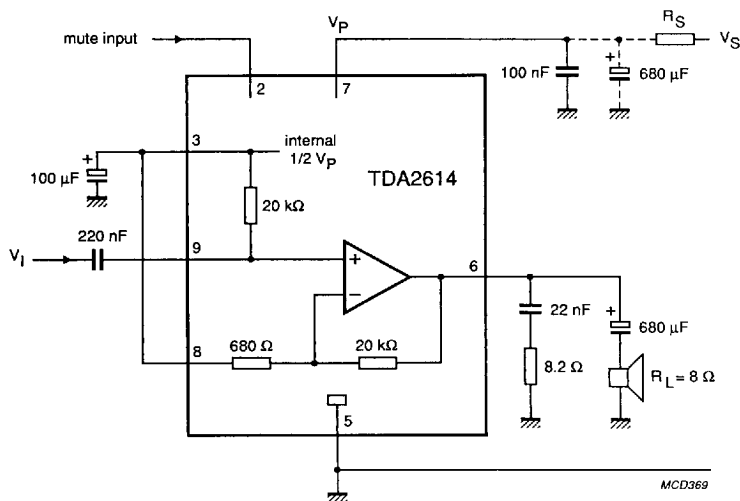

Fig.5 Test and application circuit with asymmetrical power supply.
- $V_P = 24$  V;  $R_L = 8 \Omega$ ;  $T_{amb} = 25$  °C;  $f = 1$  kHz; asymmetrical power supply  $I_{MUTE} < 30 \mu$ A. See Fig.5
- $V_P = 8$  V;  $R_L = 8 \Omega$ ;  $T_{amb} = 25$  °C;  $f = 1$  kHz; asymmetrical power supply. See Fig.5